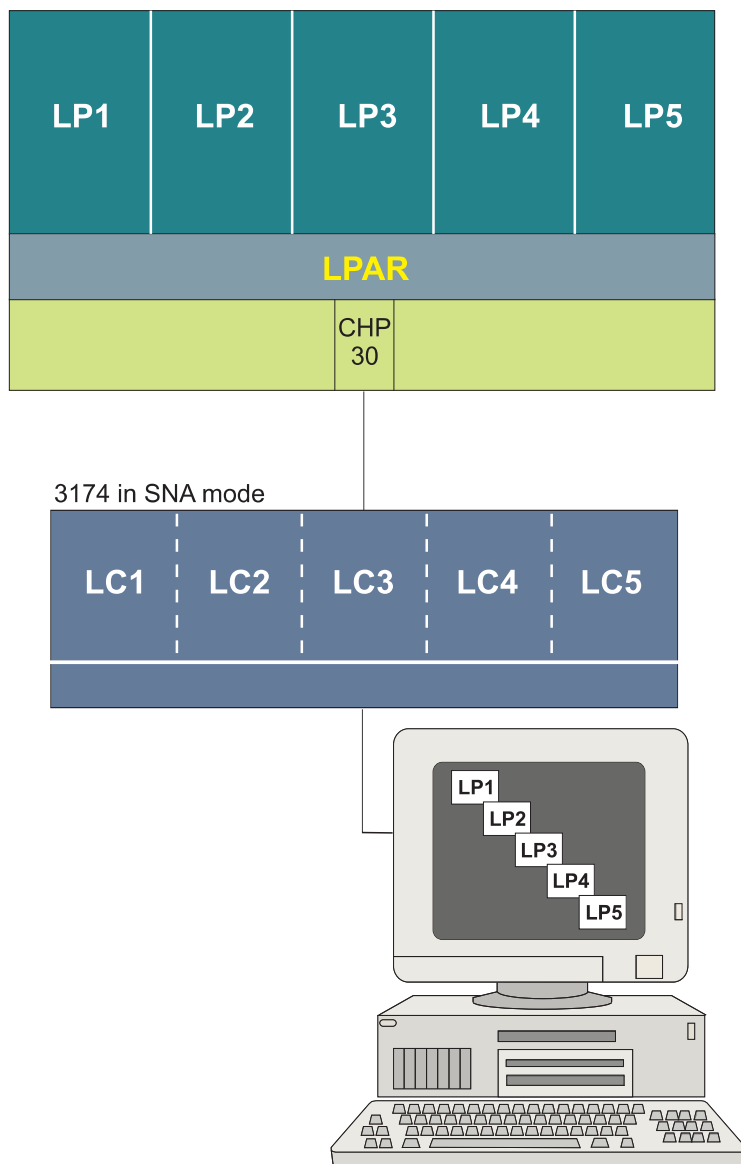

Figure 10. Defining devices to a subset of logical partitions
In Figure 10 on page 46, a 3174 in SNA mode is defined as five control unit headers (CUHs). Because each 3174 CUH supports a maximum of one logical path, it is equally important in this example that the shared channel only attempts to establish a single logical path to each 3174 CUH.
*Partial IOCP Deck for the Configuration:* Following is a partial IOCP deck for the example in Figure 10.